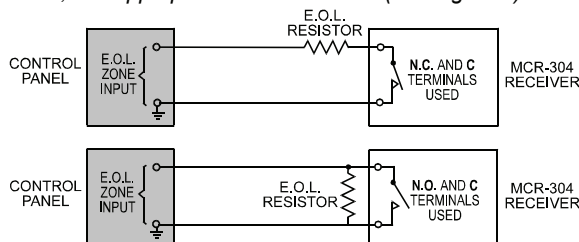

Figure 4. Using E.O.L. Resistors in the Relay Output Circuit
## 4.3 Wiring (Figures 4 through 7)
**Note:** If the control panel remote control zone input is defined as E.O.L., use appropriate E.O.L. resistors (see Figure 4).